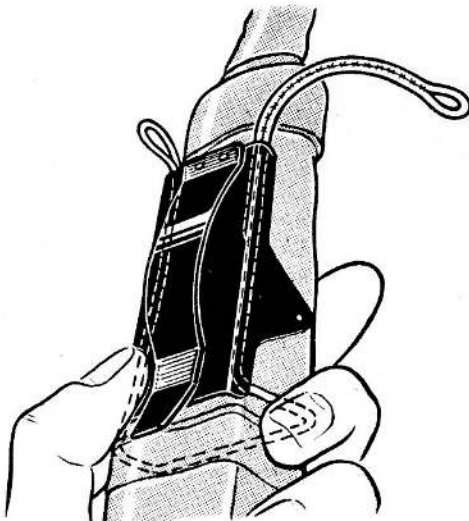

Fig. 12. Connecting the beacon to the battery switch pin—second stage
(3) Pass the cord round the beacon and again thread it under the clip. Position it as shown in fig. 12.